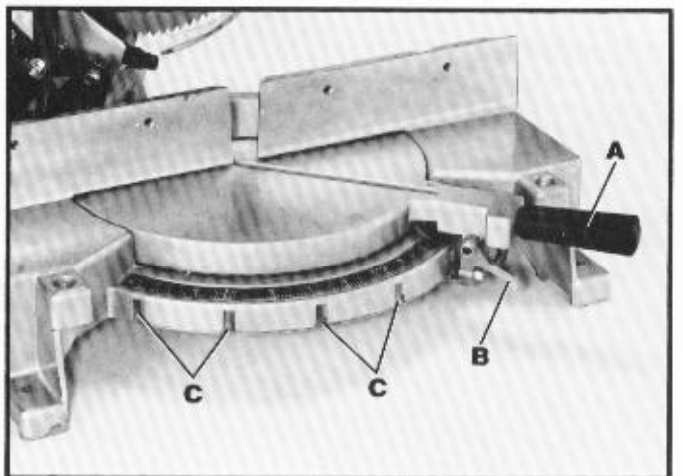

Fig. 17
Your miter box will cut any angle from a straight 90 degree cut to 49 degrees right and left. Simply loosen lock handle (A) Fig. 17, pull out plunger trigger (B) and move the control arm to the desired angle. **THEN TIGHTEN LOCK HANDLE (A).**
The miter box is equipped with positive stops at the 0, 22-1/2 and 45 degree right and left positions. Simply loosen lock handle (A) Fig. 17, and move the control arm until the plunger engages into one of the positive stops, four of which are shown at (C). **THEN TIGHTEN LOCK HANDLE (A).** To disengage the positive stop, pull out plunger trigger (B).
IMPORTANT: ALWAYS TIGHTEN LOCK HANDLE (A) FIG. 17, BEFORE CUTTING.